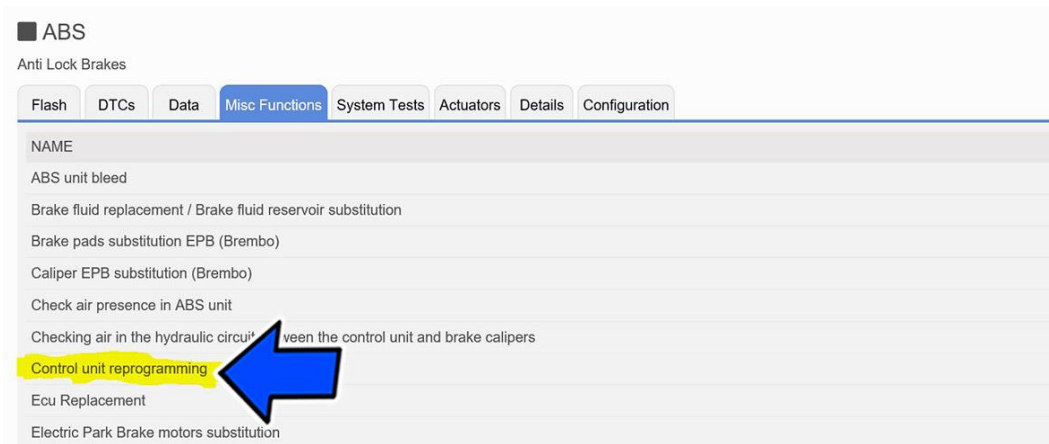

Figure 32 - Control Unit Reprogramming
- From the ABS “Misc. Functions” tab, select and run the “Control Unit Reprogramming” routine (Figure 32).